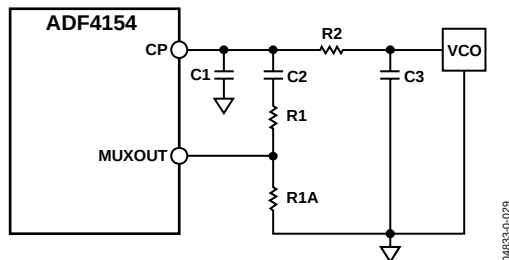
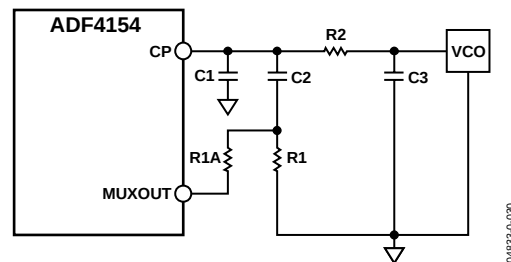

Figure 22 Fast-lock Loop Filter Topology—Topology 1
Figure 23. Fast-lock Loop Filter Topology—Topology 2
1. Divide the damping resistor (R1) into two values (R1 and R1A) of ratio 1:3 (see Figure 22).
2. Use an extra resistor (R1A) and connect it directly from the MUXOUT, as shown in Figure 22. The extra resistor must be chosen such that the parallel combination of an extra resistor and the damping resistor (R1) is reduced to  $\frac{1}{4}$  of the original value of R1 alone (see Figure 23).